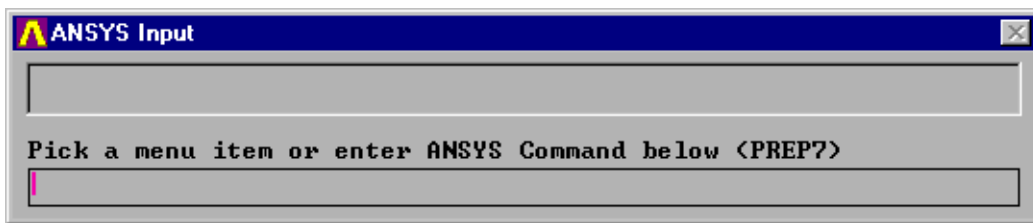

Figure 23: **ANSYS Input** window
- ☒ As the unit of the 3D model imported from MEMSCAP 3D Modeler is the micron, enter `mcp_unit=1e-6` in the **ANSYS Input** window (see Figure 23).